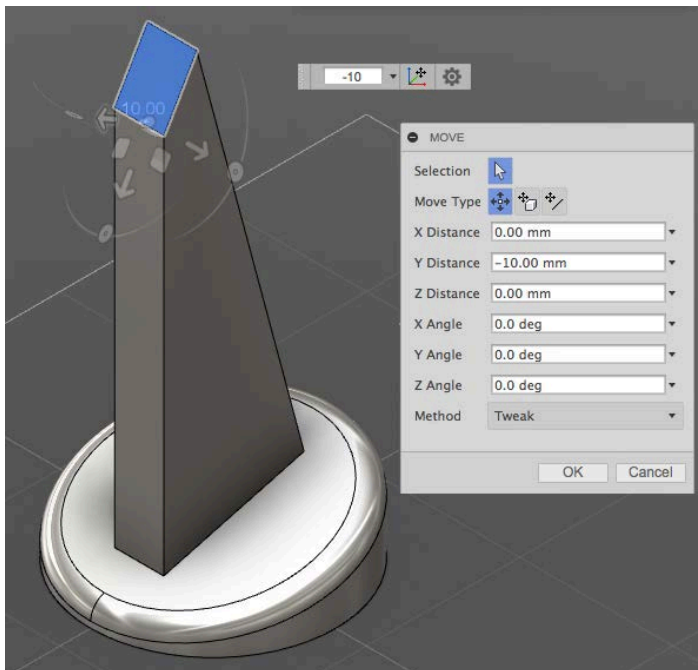

Fig. L06
7. Repeat step 6 with the top face of the box (Fig.L06).